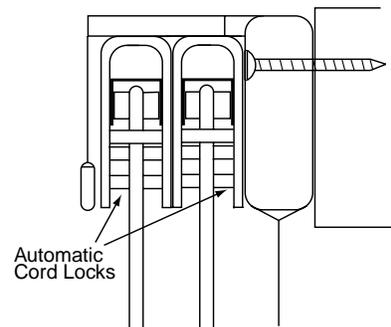

Figure 6
- ④ Operate shades to make sure they are working properly, and that the automatic cord lock is engaging (see Fig. 6).